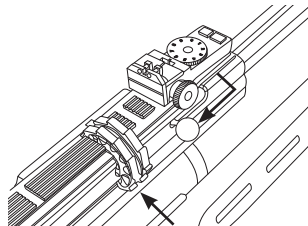

Fig. 10
4. Place the loaded magazine in its place and unlock magazine release bolt by pulling it downwards so it locks back to its place under spring load. (Fig.10). If necessary rotate the magazine counter-clockwise until its movement is arrested by the magazine stop.